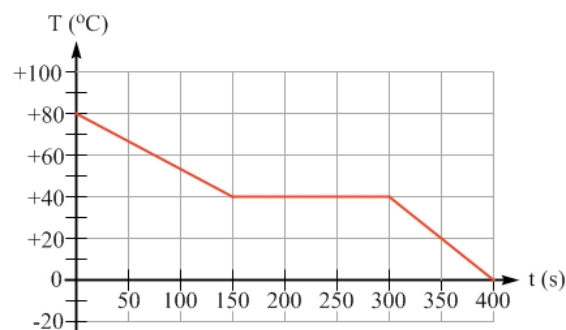

Figure 13.5: A graph of temperature as a function of time for a sample to which heat is being transferred at a constant rate, for Exercise 4.
- The graph in Figure 13.5 shows the temperature of a sample of an unknown material as a function of time. Heat is either being transferred into or out of this sample at a steady rate. (a) Is heat being transferred into or out of the sample? How do you know? (b) Does it look like the material undergoes a phase change? How can you tell? (c) If, over the period shown in the graph, the sample is in the solid phase for part of the time and is in the liquid phase for another part of the time, how do its two specific heat capacities compare? If possible, find the ratio of the specific heat capacity in the solid phase to the specific heat capacity in the liquid phase.